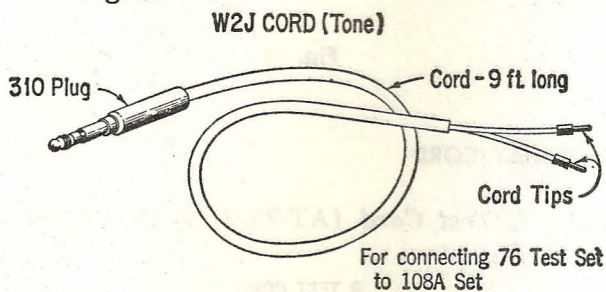

Fig. 6
- 4.04 W2J Cord:** This cord is illustrated in Fig. 6.